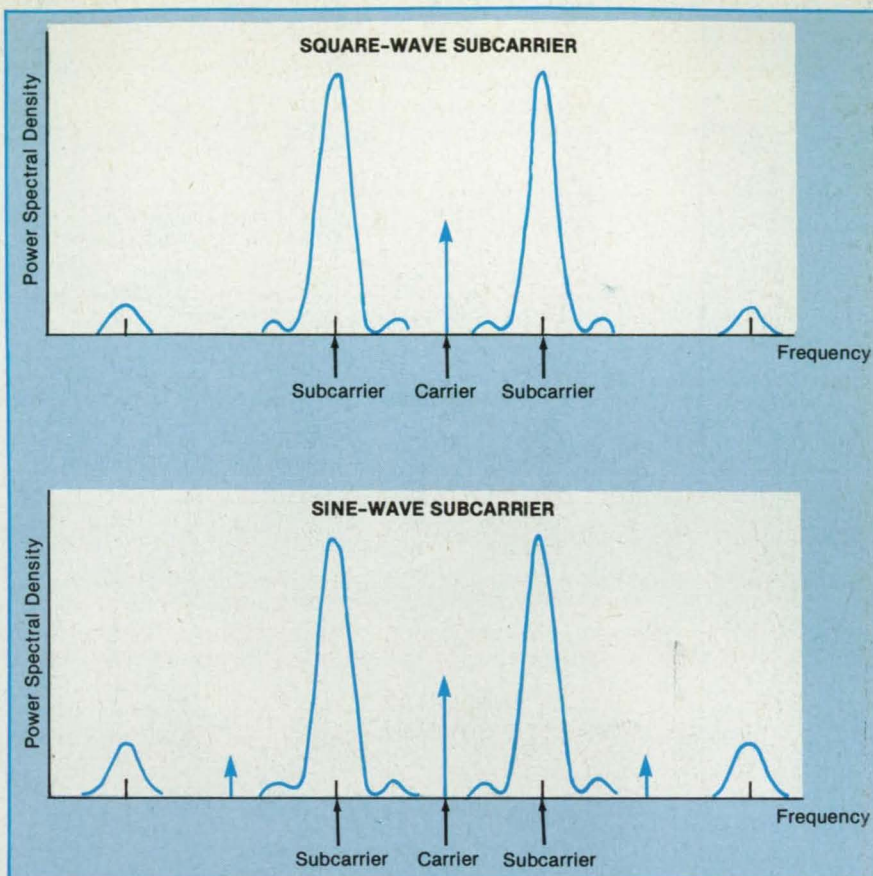

Figure 1. The **Power Spectral Densities** of phase-shift-keyed signals like those described in the text can be computed exactly.
that expresses the width (BW) of the frequency band occupied by a given fraction of the signal power as a function of the ratio (n), between the subcarrier frequency and the bit rate (R_s) of the data signal, with the modulation index (m) as a parameter. The information sought is contained implicitly in the applicable infinite-series expression for the normalized power spectral density of the signal in the sine-wave-subcarrier or square-wave-subcarrier case (see Figure 1). The integral of this expression over a given bandwidth for a given n and m is the fraction of total signal power contained within that bandwidth, and this integral can be computed iteratively to obtain that bandwidth (called the "occupied bandwidth") that contains 99 percent or another specified fraction of the total power.
Each cell of the ion-detector SRAM consists mostly of a conventional six-transistor memory cell that can be viewed as containing two inverters, self-explanatorily called the "detector inverter" and the "feedback inverter," connected back-to-back in a feedback loop (see Figure 1). The memory cells are arranged in columns, and data are written to or read from them by turning on electronic switches via word lines that connect the inverters to bit lines.
Figure 1. Each Cell of the Ion-Detector SRAM resembles that of a conventional SRAM except that one of its inverters has been modified to increase and take advantage of its sensitivity to energetic ions.